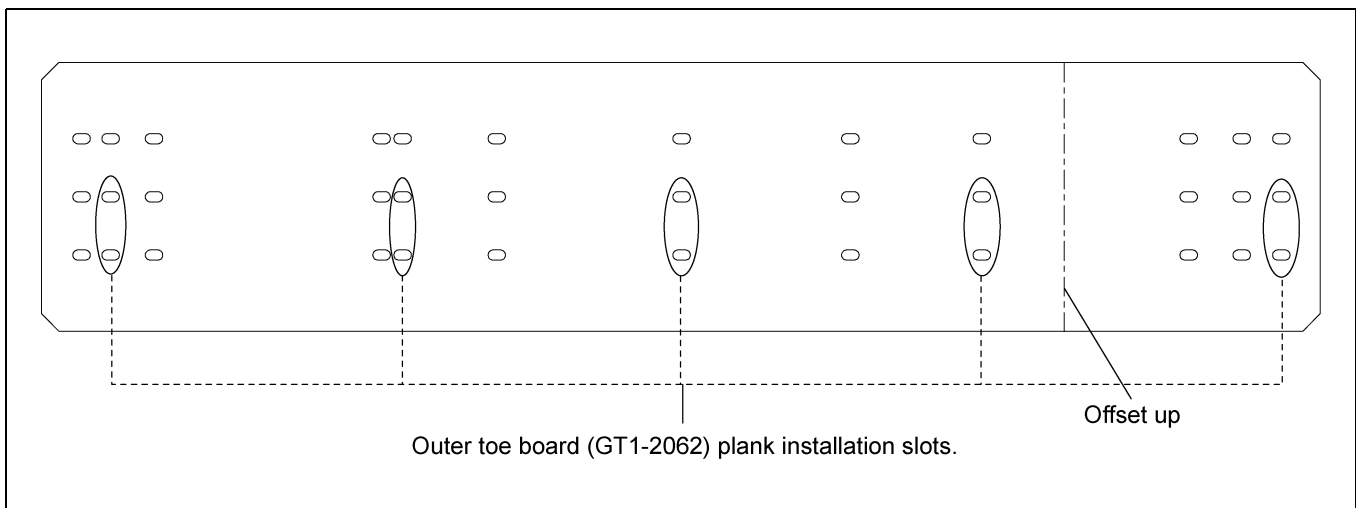

Figure 5H 24' Outer Toe Board (GT1-2062)
4. Outer toe board (GT1-2062) is arranged with many slots to install plank. Install planks to corresponding slots as shown in Figure 5H.